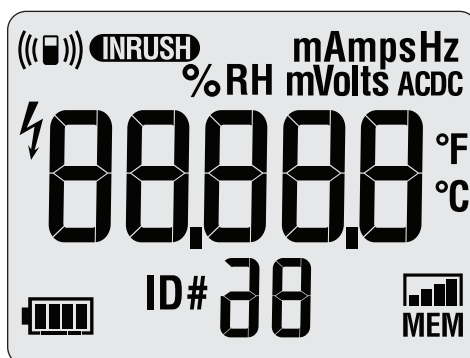

Figure 1. All Segments of the Display
2. Push **①** while you keep **LOG** pushed until all of the display segments are shown. See Figure 1.